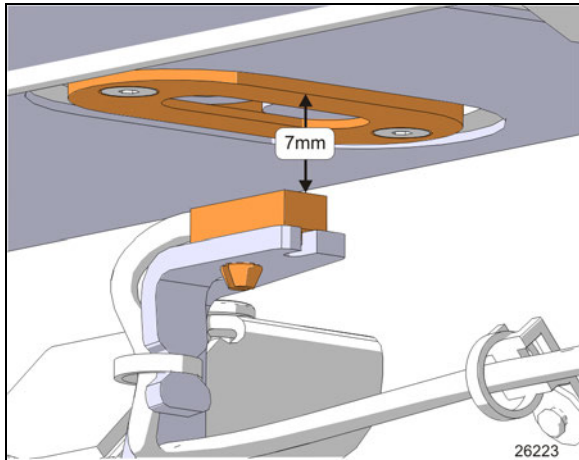
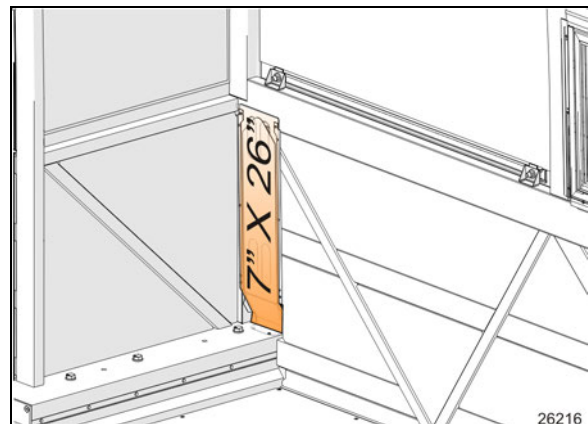

FIGURE 52: SENSOR VERTICAL ADJUSTMENT
FIGURE 53: FRONT LEFT SLIDE-OUT "NO DRILLING" ZONE
- Bring slowly the sensor toward the outside of the vehicle until the LED turns on. When it does, move it 0.079" (2mm) further in the same direction. Adjust vertically to 7mm from magnet support face (Figure 52). Tighten the mounting bracket screws.
- Bring slowly the sensor toward the outside of the vehicle until the led turns on. When it does, move it 0.079" (2mm) further in the same direction and adjust vertically to 7mm from magnet support face (Figure 52). Tighten the mounting bracket screws.
No drilling is allowed in the zones identified by Figure 52, and Figure 53. This applies on both sides of the slide-out room.